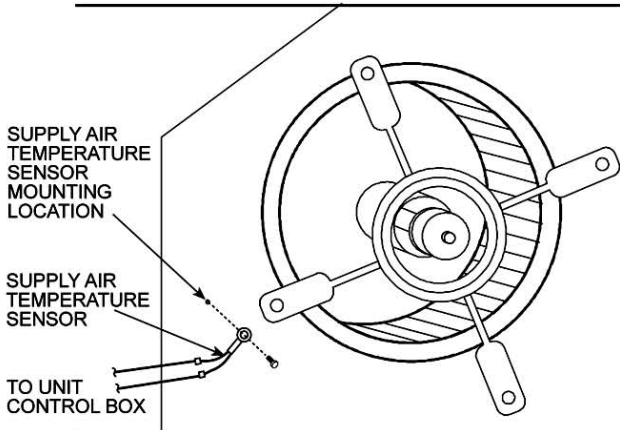

Fig. 10- Supply Air Sensor Installation Location
13. The supply air temperature sensor looks like an eyelet terminal with wires running to it. The sensor is located on the "crimp end" and is sealed from moisture. Mount the supply air temperature sensor (provided) to the lower left section of the indoor fan blower housing. See Fig. 10 Use the screw provided and use existing hole. Connect the violet and pink wires to the corresponding connections on the supply air temperature sensor. See Fig 8
SUPPLY AIR TEMPERATURE (SAT) SENSOR - The supply air temperature sensor is a 3 K thermistor located at the inlet of the indoor fan. See Fig. 10. This sensor is field installed. The operating range of temperature measurement is 0° to 158°F. See Table 5 for sensor temperature/resistance values.